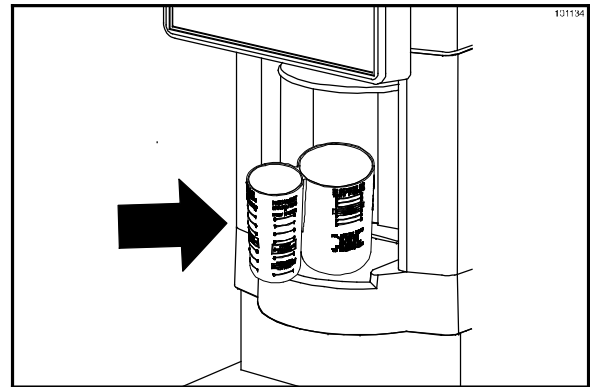

Figure 134
9. Hold the large cylinder under the ice chute. Press the NEXT key to shave the ice. (See Figure 134.)